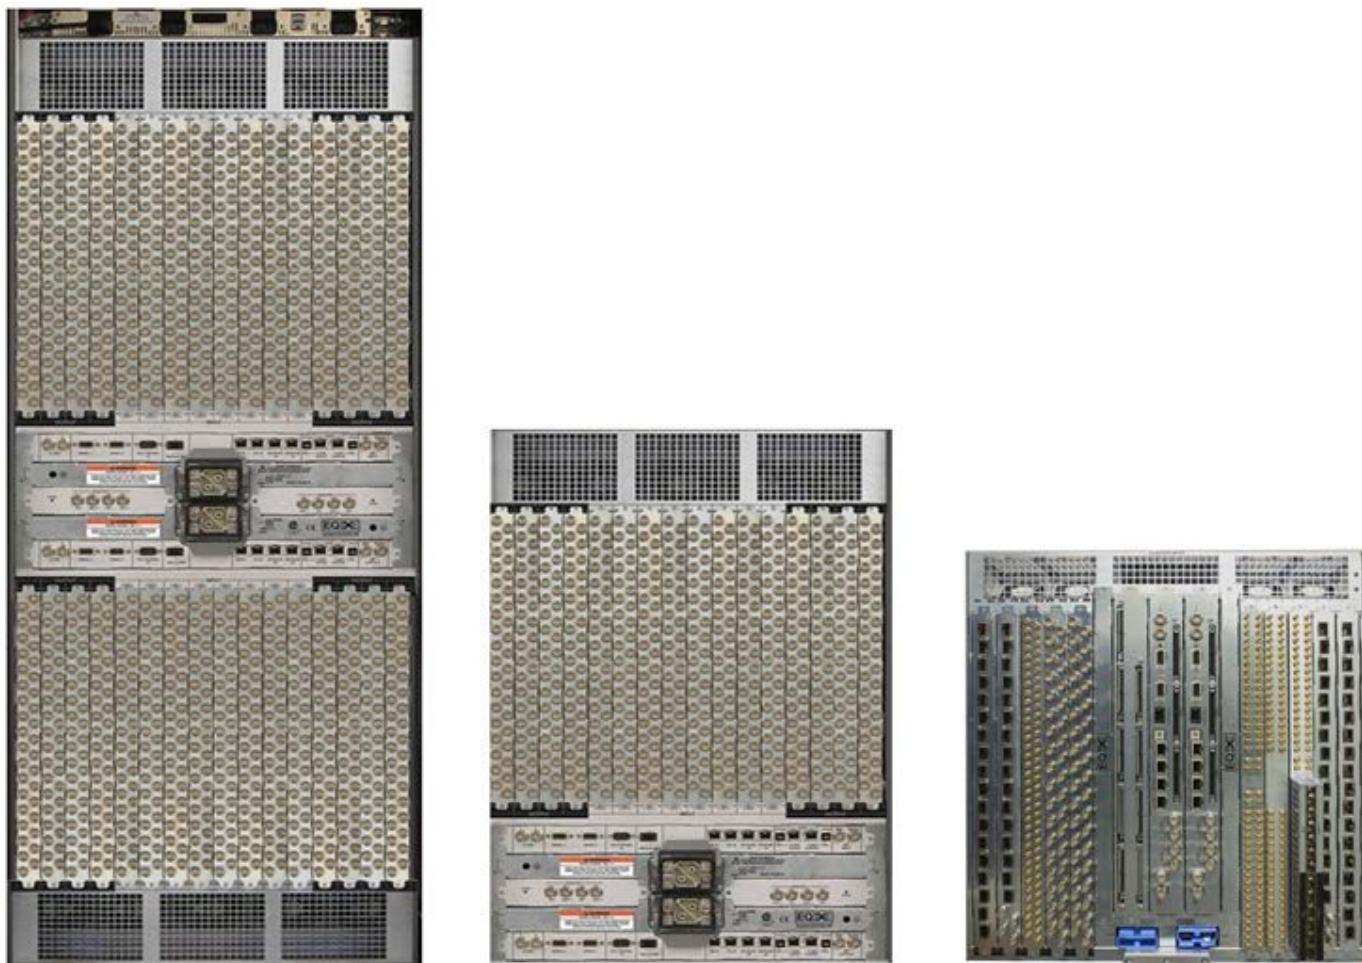

Figure 3-1: Standard 26RU, 16RU, and 10RU Frames
Step 1 : Install the EQX-IP18-IPG rear plate to the top half of the EQX frame with screws provided and make sure the orientation of the rear plate is the same as shown in Figure 3-1.